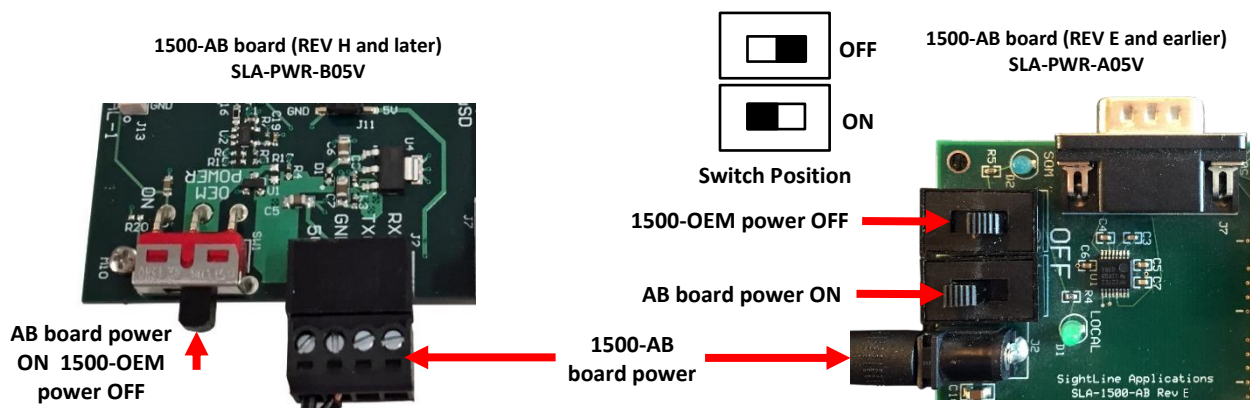
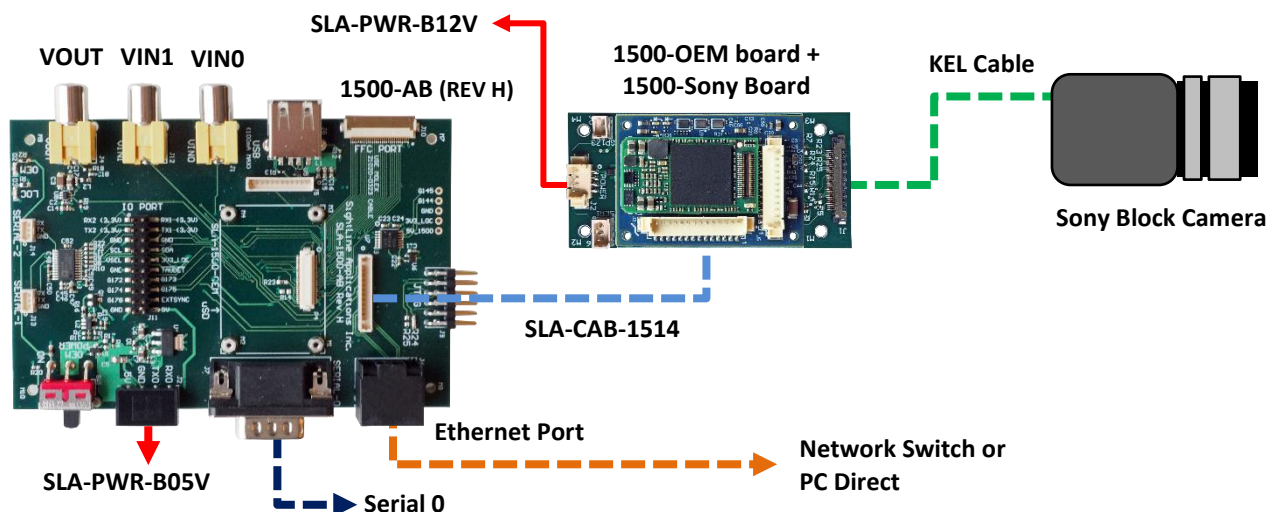

Figure 1: 1500-AB Board Power Connections
Figure 2: 1500-OEM Sony Block Camera Bench Setup
REV H and later 1500-AB boards have a single power switch. REV E and earlier boards have a dual power switch. REV H and later boards are immediately powered on when power is connected. If using the 1500-AB board in a bench setup, review Figure 1 and Figure 2 prior to making power connections.
- ⚠ **CAUTION:** Power to the 1500-OEM board is provided through the 1500-Sony interface board using the SLA-PWR-B12V power supply shown in Figure 2. Powering the OEM through the J3 power pins and through the 1500-Sony board can damage the OEM.
- ⚠ **CAUTION:** DO NOT power up the 1500-OEM board from the 1500-AB interface board. The power switches should be set to the positions shown in Figure 1 (AB board power ON / 1500-OEM power OFF). Long term over powering will permanently damage the 1500-OEM board.
7. Connect the SLA-PWR-B12V supply (12V) to an AC power source. This will power the camera, Hitachi adaptor board and the OEM assembly. **Do not** apply power the 1500-OEM from the AB board (see Figure 2).